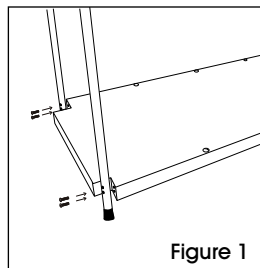

Figure 1
2. Using screws, secure the end uprights to the lower platform. Tighten only one screw at each corner to ensure uprights are level and stable. Then tighten the second screw. (See Figure 1)